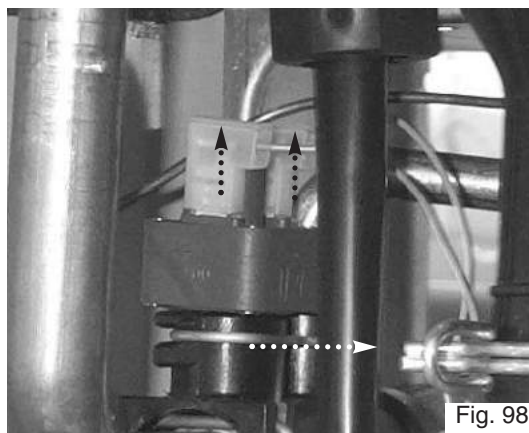

Fig. 98
2. Pull off the connections. Then remove the pressure switch by releasing its securing clip (see Fig. 98).